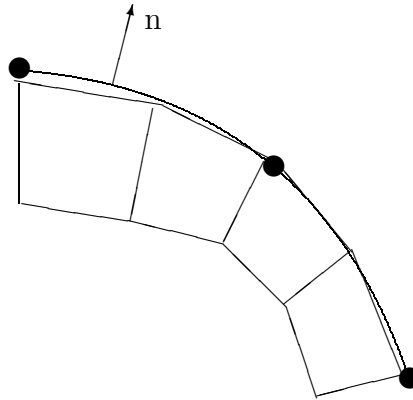

Figure 5.10: Two-Dimensional Surface Loading
*FEAPPV* will search for all nodes which are closer to the interpolation patch than *GAP* (default is  $10^{-3}$ ). Using the element boundary segments which have outward normals to the patch (by right hand coordinate rule as shown for a two-dimensional problem in Figure 5.10) will be located and the values interpolated to nodes. For tractions the equivalent nodal loads will be computed. In two dimensions it is not necessary for the interpolation patch to exactly match the element boundary segments.